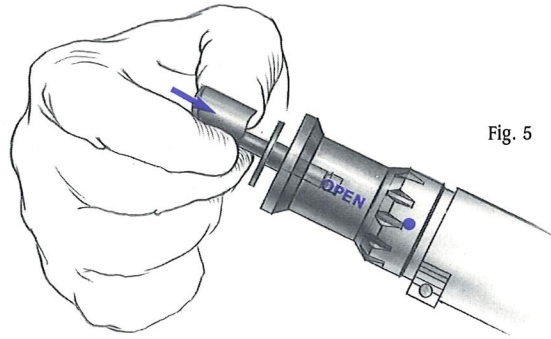

Fig. 5
3. Insert the cutter onto the mill until it is fully seated (Fig. 5).